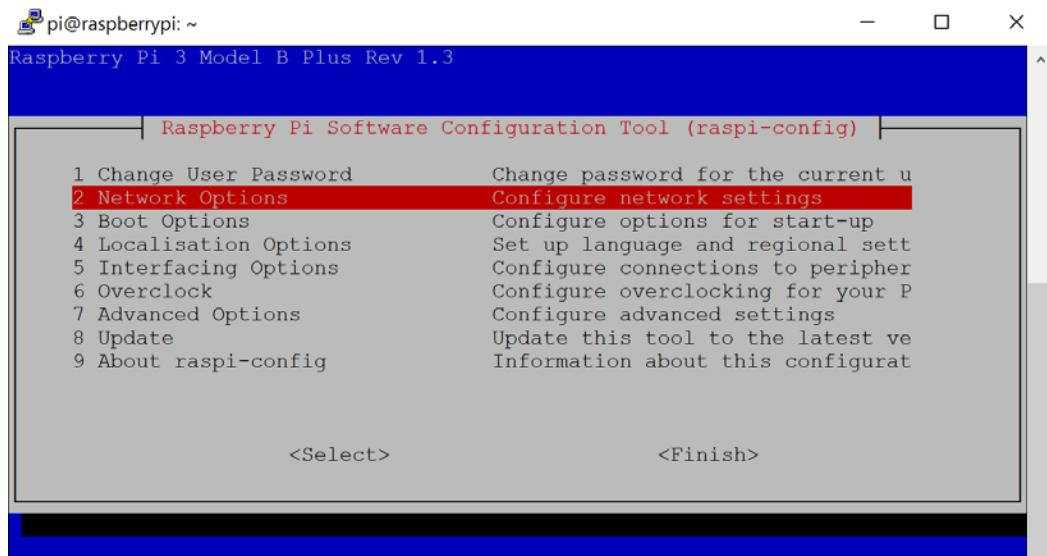

Figure 4.6 – Network options
1. In raspi-config, select **Network Options**, shown in *Figure 4.6*. Use the arrow keys on your keyboard to highlight and press *Enter* to select the entry: